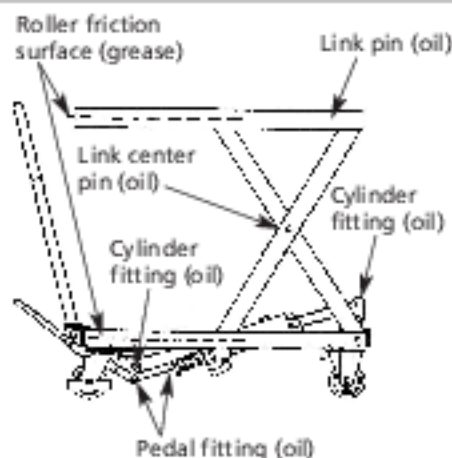

Figure 5
Monthly lubrication is recommended to ensure proper and safe operation. See Figure 5.
- Lubricate rollers and pivot points according to Figure 5.